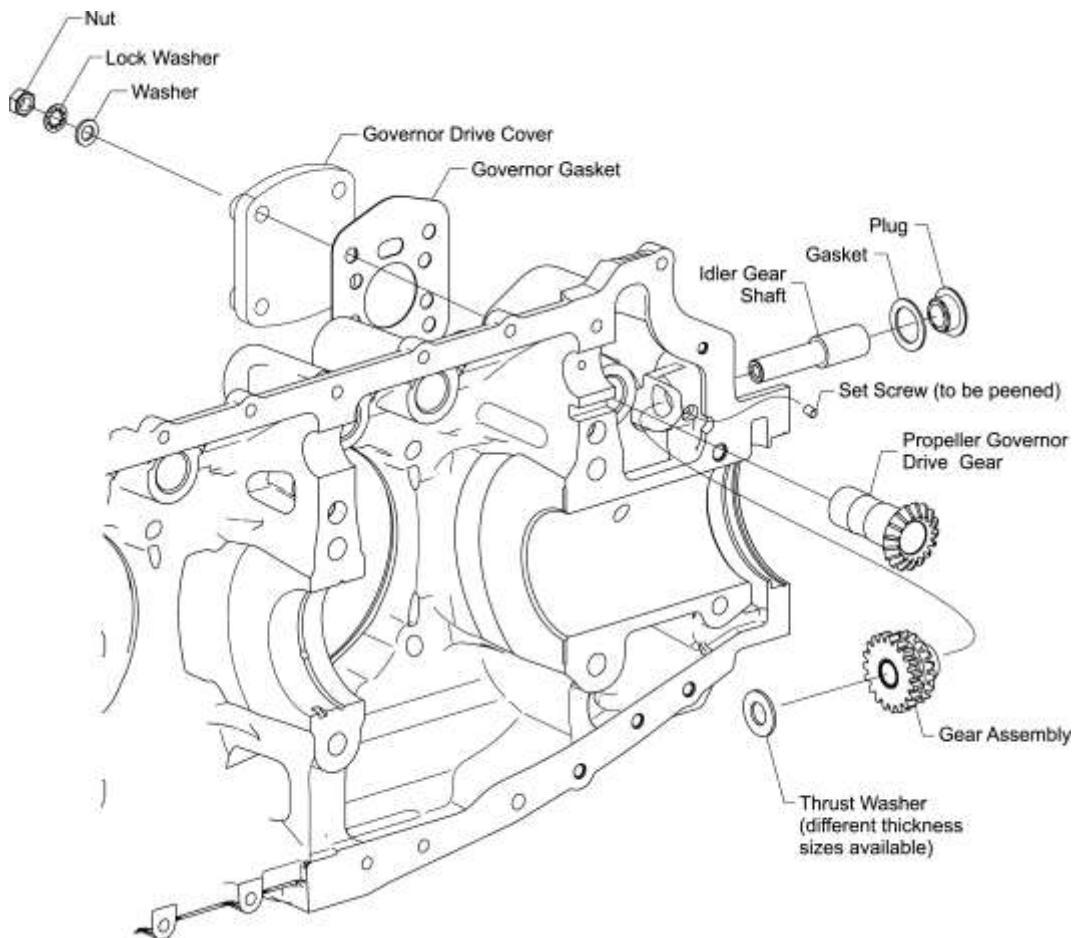

Figure 14
- (1) If not already done, remove the four nuts, lock washers and washers (Figure 14) from the propeller governor or the propeller governor drive cover. Discard the lock washers.
- (2) Remove the propeller governor or the propeller governor drive cover and governor gasket. Discard the governor gasket.
- (3) Cut and remove the safety wire/cable from the idler gear shaft plug (Figure 14).
- (4) Remove the idler gear shaft plug and gasket from the crankcase. Discard the gasket.
- (5) Remove and discard the set screw from the propeller governor idler gear shaft. If the set screw was peened or staked in the hole, remove any debris.
- (6) Support the propeller governor idler gear shaft and, simultaneously remove the idler gear shaft, gear assembly, and thrust washer. Discard the thrust washer.